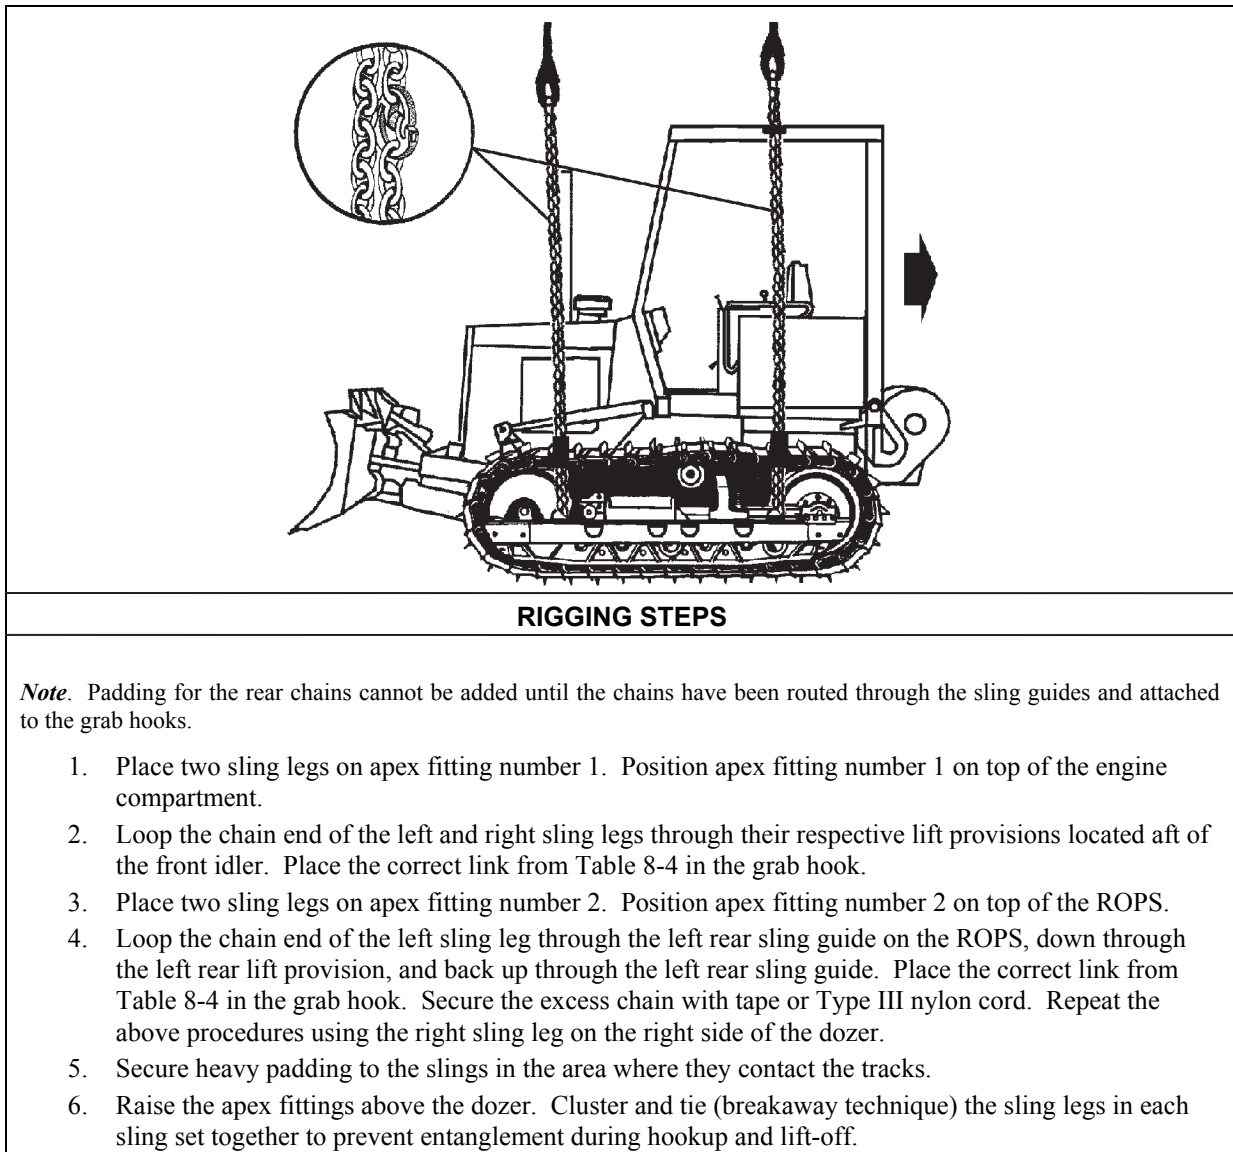

Figure 8-4. Tractor (Dozer), Full-Track, Type III, JD450G
- **Rigging.** Rig the load according to the steps in Figure 8-4.